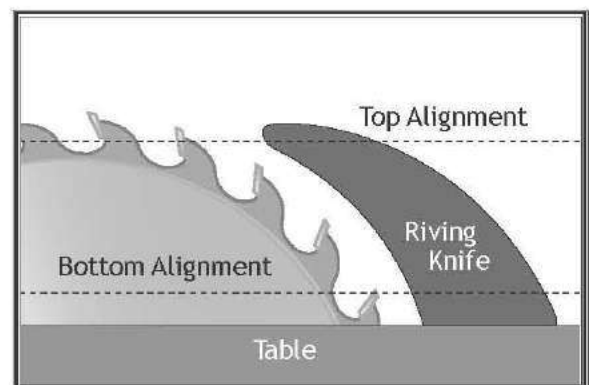
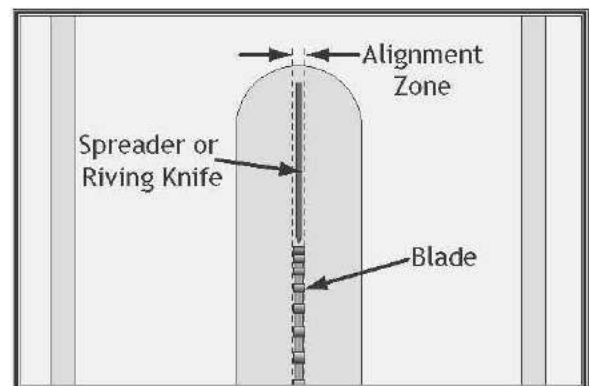

Figure 109. Example of checking top and bottom riving knife parallelism with blade.
Figure 110. Spreader/riving knife alignment zone.
3. Place straightedge against top and bottom of blade and spreader/riving knife, as shown in **Figure 109**. Spreader/riving knife should be parallel with blade at both positions and in the "Alignment Zone," as shown in **Figure 110**.